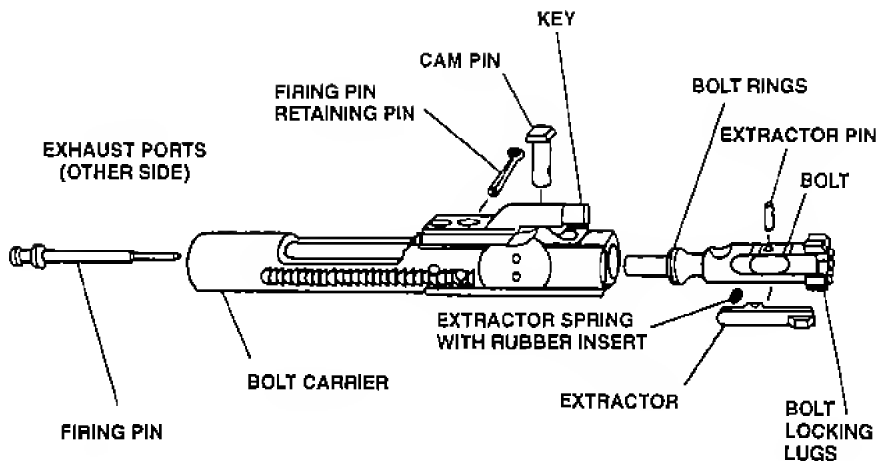

FIGURE 10 — BOLT AND BOLT CARRIER ASSEMBLY
7. Push in firing pin retaining pin from right to left of bolt carrier and remove pin by pulling it out to the left. (See Figure 10.)